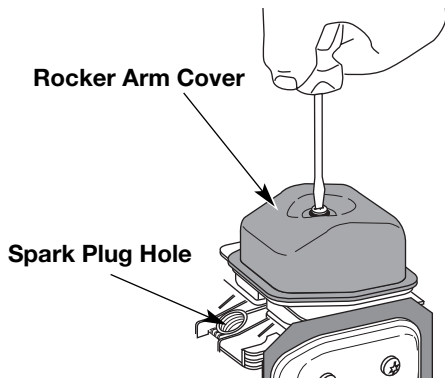

Fig. 70
- Clean dirt from around the rocker arm cover. Remove the screw holding the rocker arm cover with a large flat blade screwdriver or Torx T-25 bit (Fig. 70). Remove the rocker arm cover and gasket.
- The piston is at the top of its travel while looking in the spark plug hole (Fig. 70)